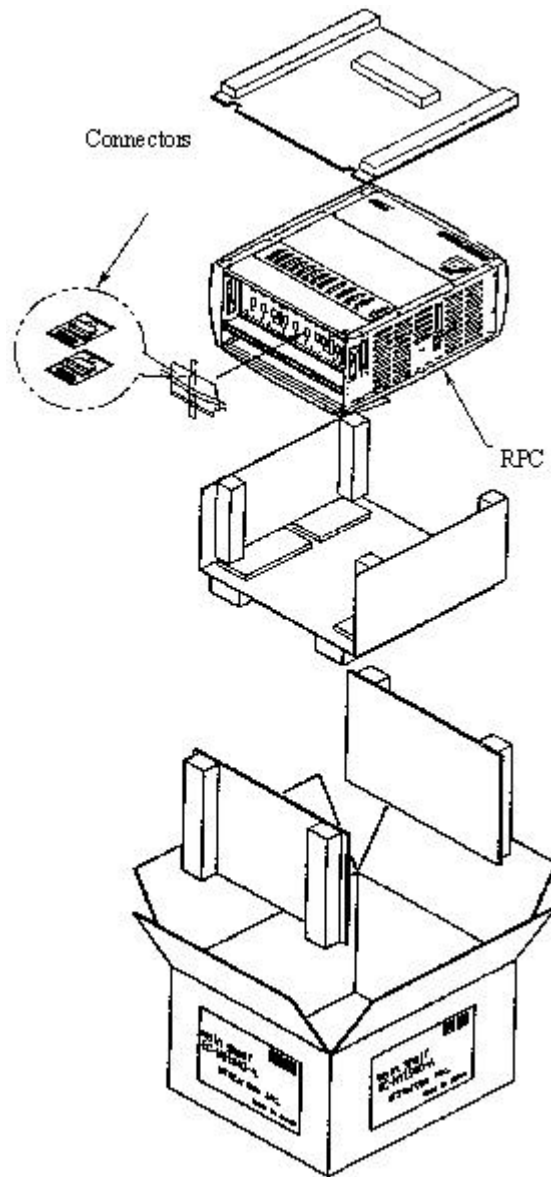

Figure 2-12: Unpacking the RPC and Accessories
1. Carefully unpack the RPC and the accessories and make sure that they are in good condition. Accessories include 2 connectors for the RP connection cables. Refer to Figure 2-12 for unpacking.